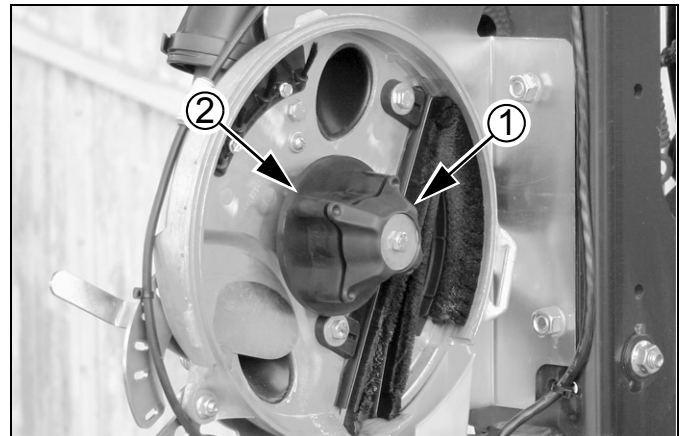

Figure 62
Refer to Figure 62 (depicting an empty meter)
1. Remove rain cover. If seed is present, close shutter ④ to prevent more seed from entering meter. Attach funnel (page 80) or place a tarp under the row to collect seed.
2. Hold seed disk in meter. Rotate disk clamp ① counterclockwise 45° to release disk.
4. Clean seed from all brushes. Clean disk seat (② in Figure 62 page 61), so that new disks can seat fully. Inspect brushes for excess wear and damage. See **"Meter Brush Maintenance"** on page 82.